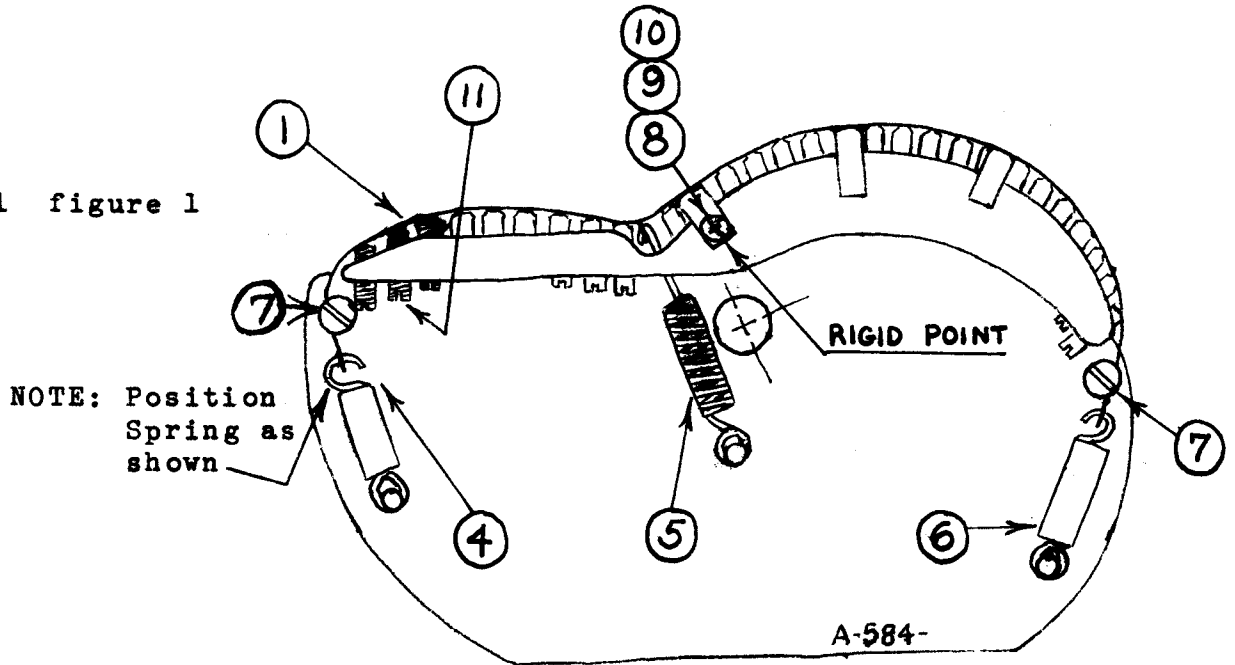

FIGURE 1
7.1 Adjust part # SL-101 (Screw, Set, Locking) in accordance with the following chart (reference figure 1), paragraph 7.1.2
7.1.1 figure 1
Note #3: Make sure that the tabs of the flexible cam strip are flush with the side of the cam assembly (Reference figure 1).